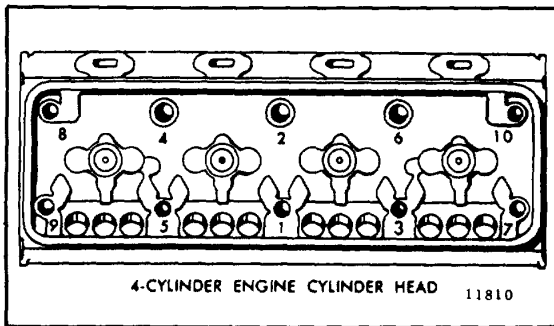

Fig. 13 Cylinder Head Bolt Tightening Sequence
8. Tighten the bolts to 175-185 lb-ft (238-251 Nm) torque in 50 lb-ft (68 Nm) increments with a torque wrench, in the sequence shown in Fig. 13. Repeat the tightening sequence at least once, because the first bolts tightened in the sequence tend to lose significant clamp load during tightening of the remaining bolts. Apply a steady pressure for two or three seconds at the prescribed torque to allow the bolts to turn while the gaskets yield to their final designed thickness. Begin on the cam follower side of the head to take up tension in the push rod springs. Tighten the bolts to the high side of the torque specification, but do not exceed the limit or the bolts may stretch beyond their elastic limits. Attempting to tighten the bolts in one step may result in trouble and consequent loss of time in diagnosis and correction of difficulties, such as compression leaks, when the engine is put into operation.